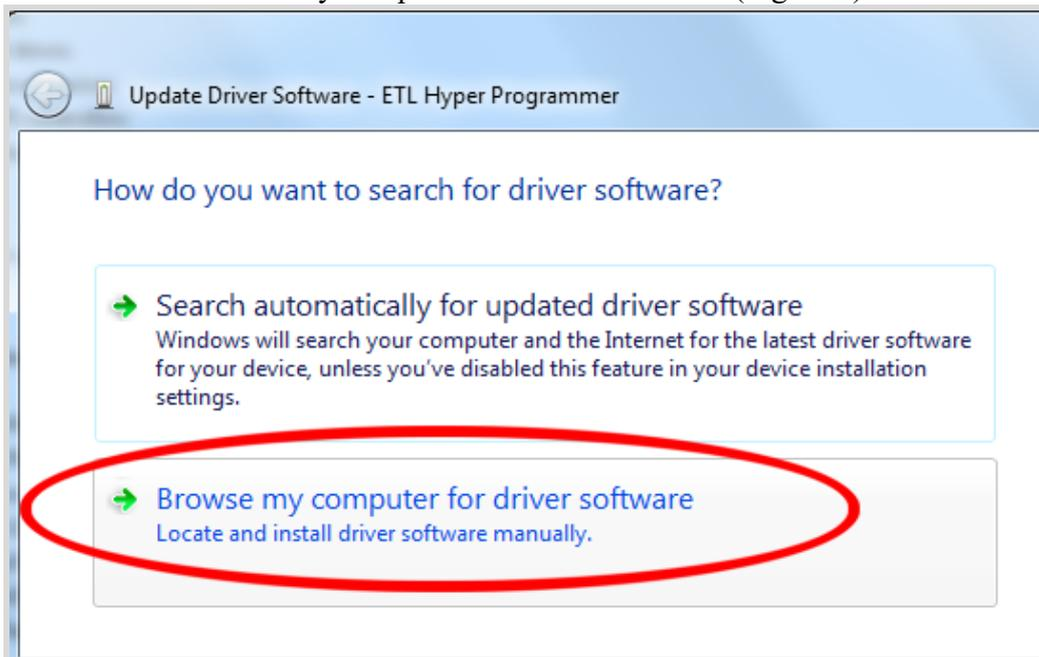

Figure 5. Update Driver Software - "ETL Hyper Programmer"
- Select the "Browse my computer for driver software" (Figure 5)
- Select the "Browse my computer for driver software" (Figure 5).